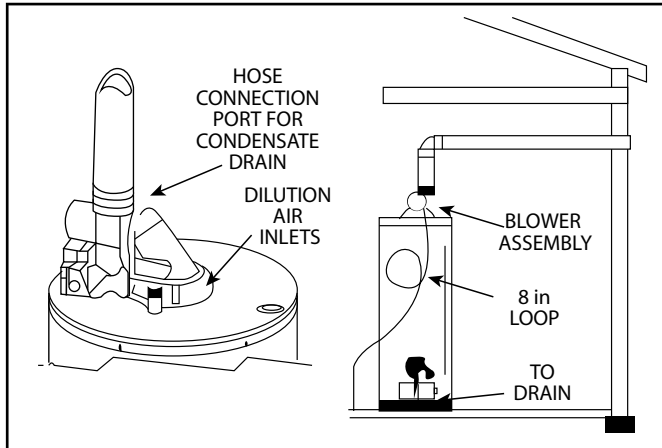

Fig. 12
1. This power vented water heater comes with blower assembly installed (see Figure 12).
Condensate formation does not occur in all installations of power vented water heaters, but should be drained on installations where it can form in the venting system. Condensation in the venting system of power vented water heaters is dependent upon installation conditions including, but not limited to, ambient temperature and humidity of installation location, ambient temperature and humidity of venting space, vent discharge and slope, and product usage. In certain conditions, installations in unconditioned space or having long horizontal or vertical vent runs can accumulate condensate. Long lengths of venting that pass through cool/cold areas will experience condensation. The vent pipe should be sloped upwards away from the blower assembly, then adequate means for draining and disposing of the condensate needs to be made by the installer. If installation conditions cause condensation, install a condensate trap loop approximately 8 in. in diameter using 3/8 in. plastic hose. Connect the hose to the built-in drain port of the rubber coupling of the blower assembly (see Figure 12). Loop the hose in a vertical position as shown. The tube loop must be filled with water at least half way prior to operating the heater. Ensure the end of the tube has access to a drain as condensate will flow from the end. Secure the tubing to the side of the heater. Prior to operating the water heater, make sure the removable cap is installed on the drain port (if a drain hose is not needed).